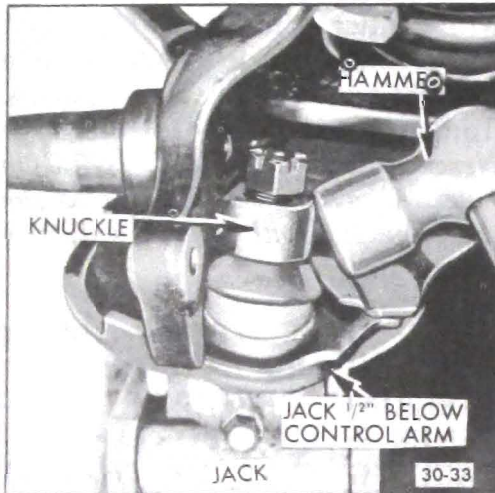

Figure 30-36 - Separating Steering Knuckle from Ball Joint
3. Loosen, but do not remove nut. Force of chassis spring will be tending to disengage ball joint tapered stud from steering knuckle. Rap knuckle sharply in area of tapered stud to disengage stud from knuckle. See Figure 30-36.
8. Rap the steering knuckle in the area of the stud to separate the stud from the knuckle. See Figure 30-36.